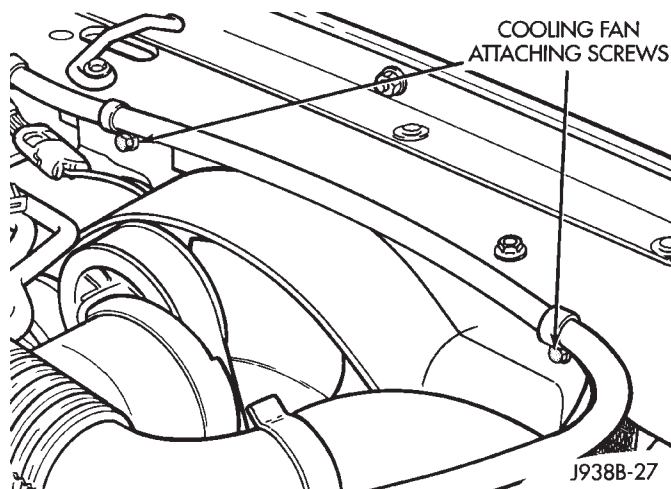

Fig. 8 Electric Cooling Fan Removal/Installation
- (1) Remove negative cable from battery.
- (2) Remove 2 screws holding electric cooling fan (Fig. 8).
- (3) Unplug electric cooling fan connector.
- (4) Pull fan up and out of vehicle.
- (5) Remove generator drive belt. See Group 7 - Cooling System, for instructions.
- (6) Remove generator mounting bolts.
- (7) Position generator to gain access to all of the wire connectors.